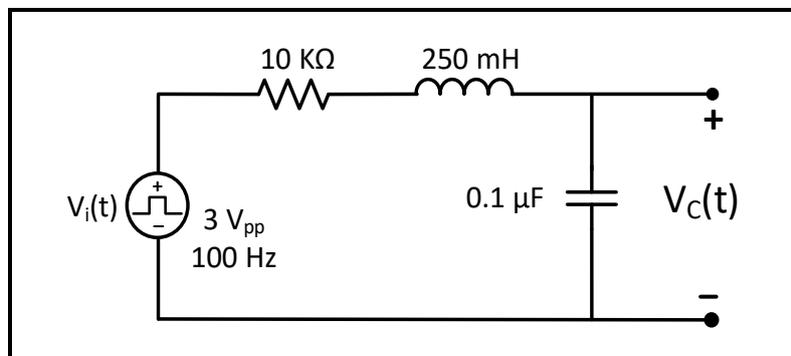

Figure 7.5
For the circuit of Figure 7.5:
1. Connect the circuit shown in Figure 7.5, with the function generator set to produce a square wave of: 3 V_{pp}, f = 100 Hz, and DC offset 1.5 V (**Use decade box for R**)